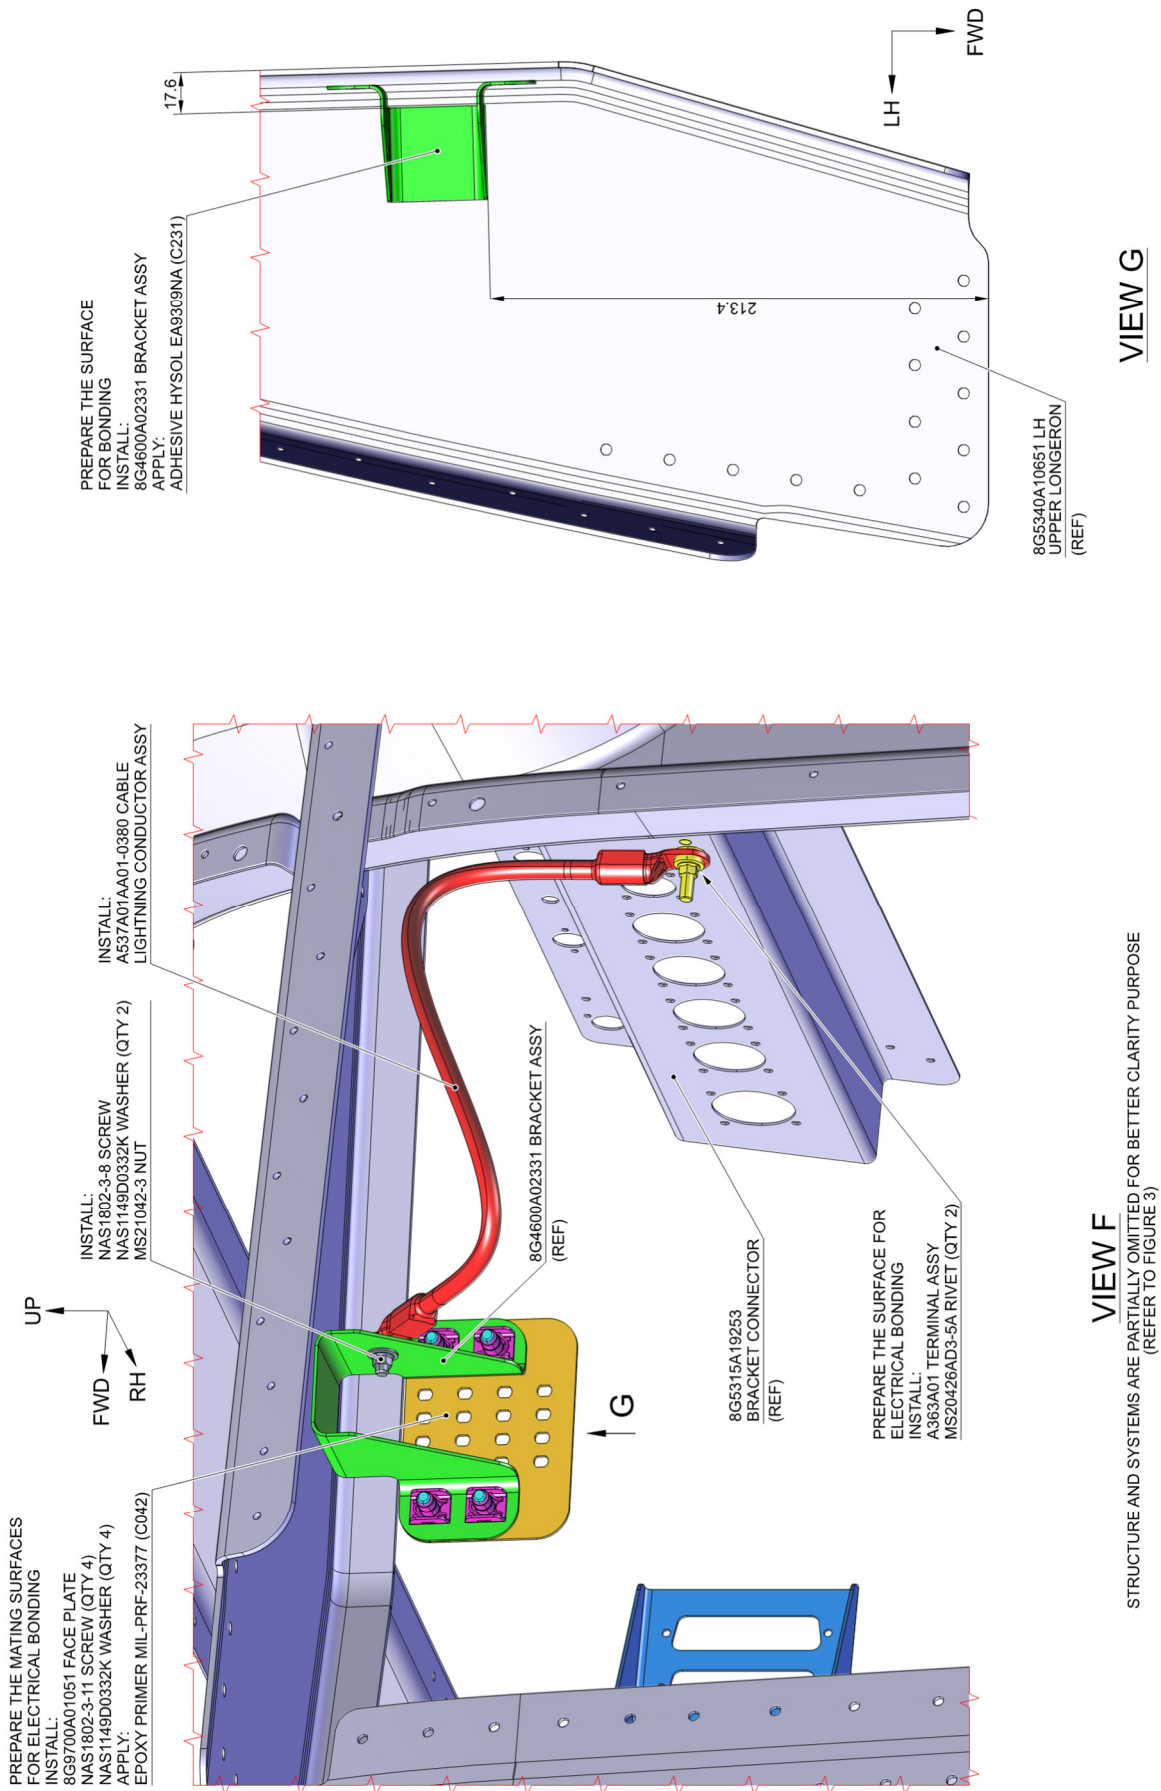

**Figure 4**
- 3.2 With reference to Figure 4 and Figures 7 thru 10, perform the DVR & VMU C/A Instl P/N 8G9700A01411 as described in the following procedure:
- 3.2.1 With reference to Figure 4 View B, install n°3 supports P/N AW001CL001-N6 in the indicated positions of the LH upper shelf assy P/N 8G5310A38011 by means of adhesive CB200-40 (C356).
4. With reference to Figure 4, perform the DVR & VMU electrical replacement P/N 8G9700A01511 as described in the following procedure:
- 4.1 With reference to Figure 4 View E, install n°2 supports P/N AW001CL001-N6 in the indicated positions of the LH upper cowling provision P/N 4F5310A08412 by means of adhesive CB200-40 (C356).
- 4.2 With reference to Figure 4 View B, install n°1 support P/N AW001CL001-N6 in the indicated position of the LH upper shelf assy P/N 8G5310A38011 by means of adhesive CB200-40 (C356).